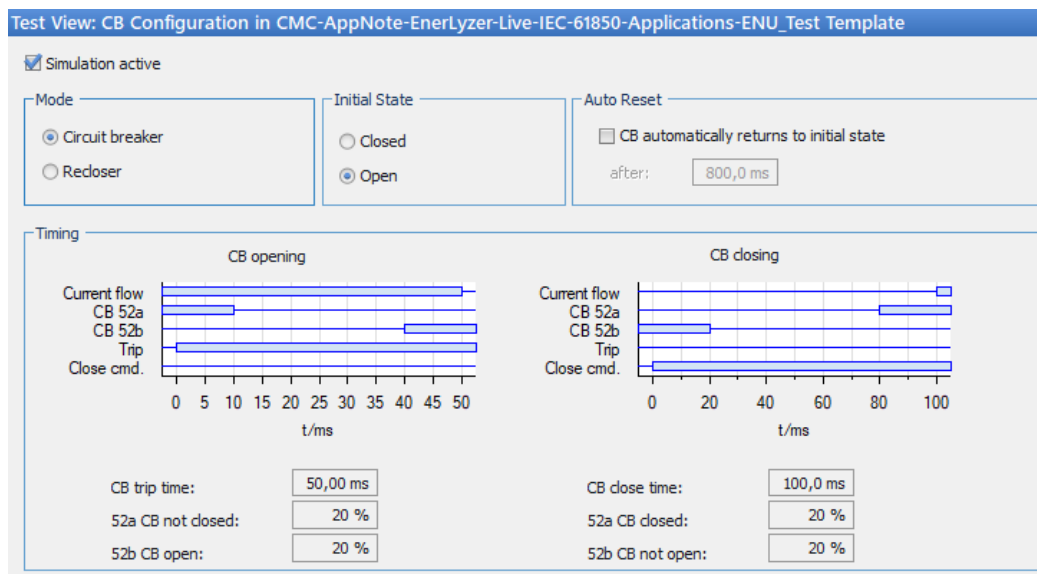

Figure 16: Configuration of the circuit breaker simulation.
2. If a circuit breaker simulation is required (e.g. because no real circuit breaker is connected to the relay), insert the Test Universe module *CB configuration* to the test document and set it up, as exemplarily shown in Figure 16: